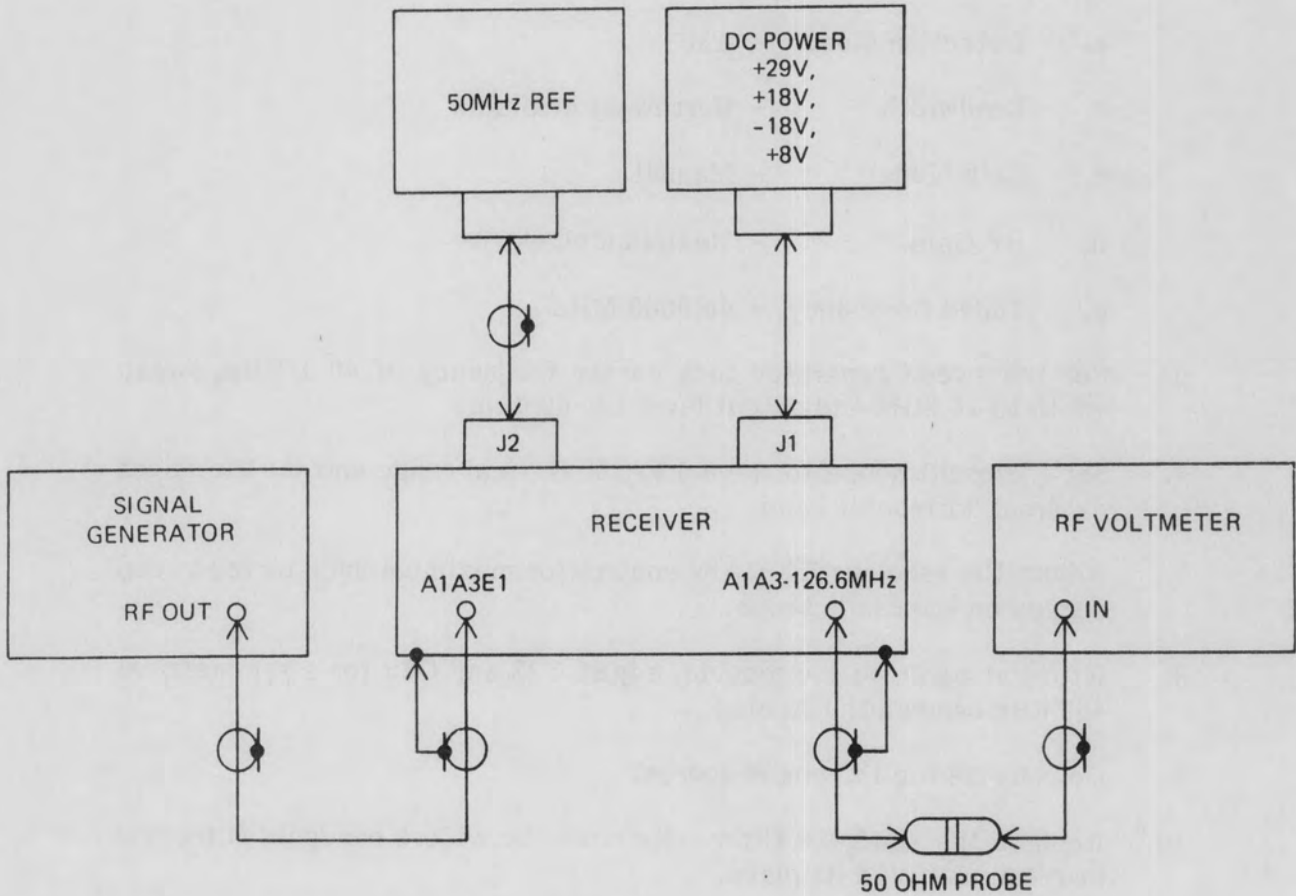

Figure 4-10. 1st IF Converter Alignment Equipment Setup
1. Remove the RF Tuner cover and connect the receiver as shown in **Figure 4-10**.